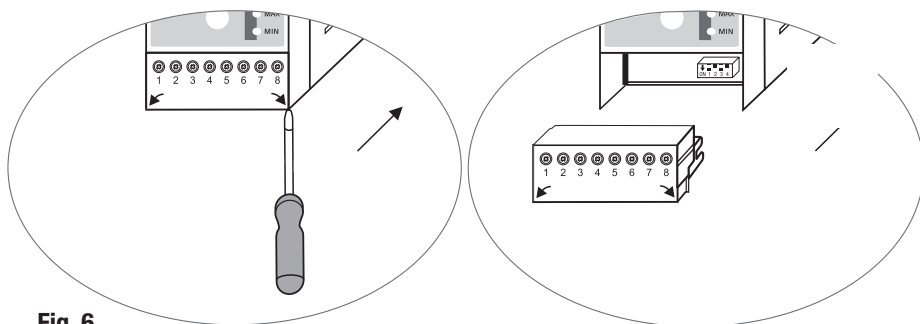

Fig. 6
- Detach the upper and lower terminal strips **Fig. 6**